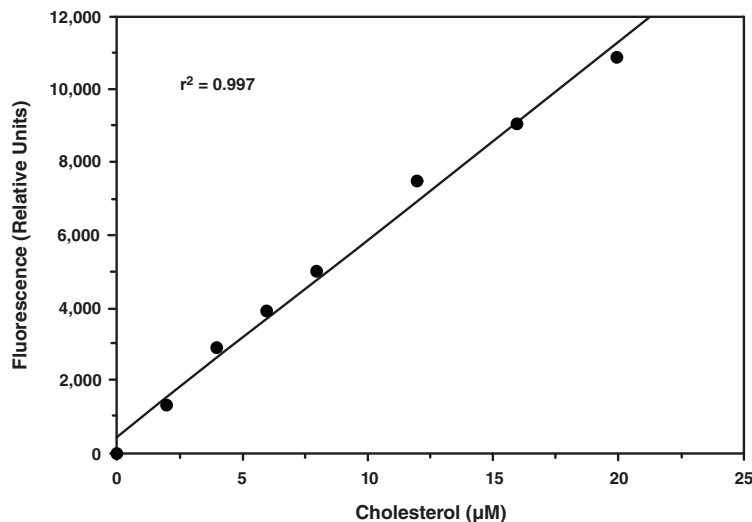

Figure 3. Cholesterol standard curve
3. Plot the adjusted fluorescence of the standards (from step 2 above) as a function of the final concentration of cholesterol from Table 1. See Figure 3 for a typical standard curve.